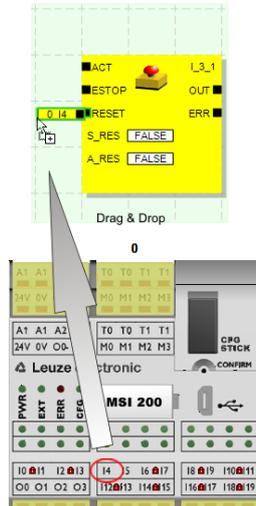

Figure 5-8 Inserting a signal in the connection editor
6. Drag & drop the required input or output signals of the newly inserted module into the connection editor and connect them (see Figure 5-8 on page 5-15).
2. Drag the required (dual) input or output signal from the hardware editor into the connection editor (see Figure 5-8 on page 5-15).